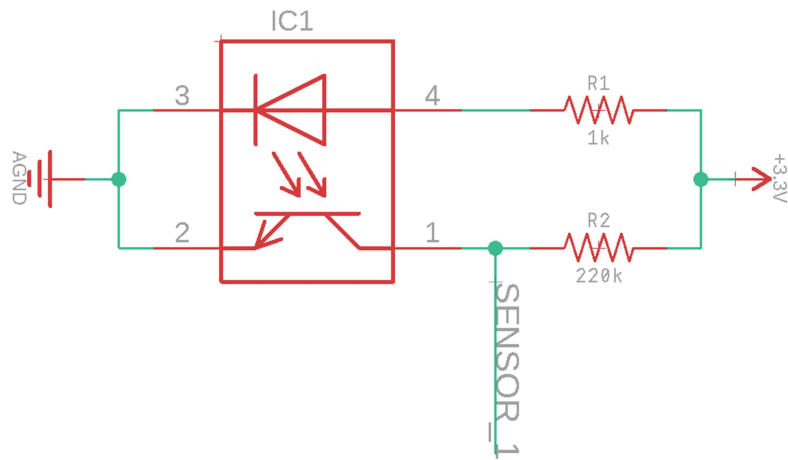

Figure 15 Sensor unit schematic
- Ratio of values of resistors $R1 / R2$ (see Figure 15). If ratio is too low or too large there is very little difference between reading of all white and all black (Figure 14). Ratio should be chosen somewhere in the middle to maximize distance between all white and all black readings.
Figure 15 shows schematic for the sensor unit. It is based on schematics from <http://www.pololu.com> (lots of awesome boards which can be used in robot building and prototyping) and from the book Practical Electronics for Inventors by Paul Scherz and, Simon Monk.